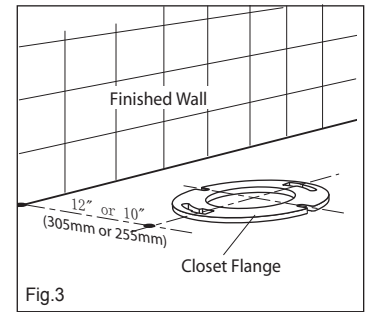

Fig.3
1. It is important for installation of Sydney Smart II 1 PC Washdown toilet that the closet flange be accurately set out from the finished wall as detailed in Fig.3.